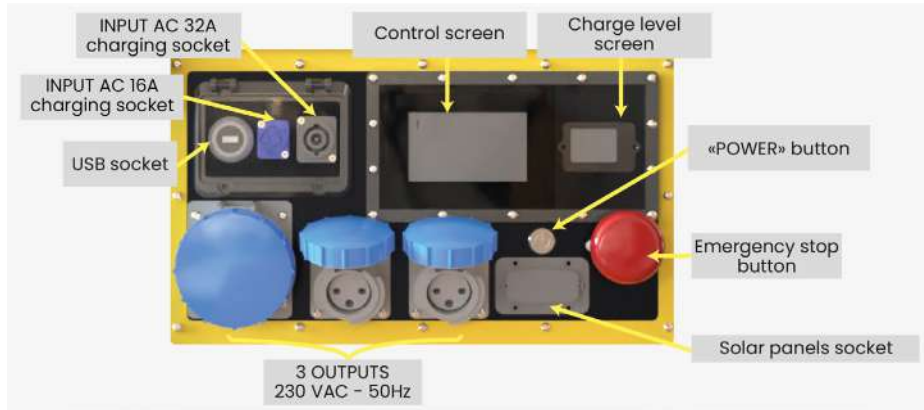
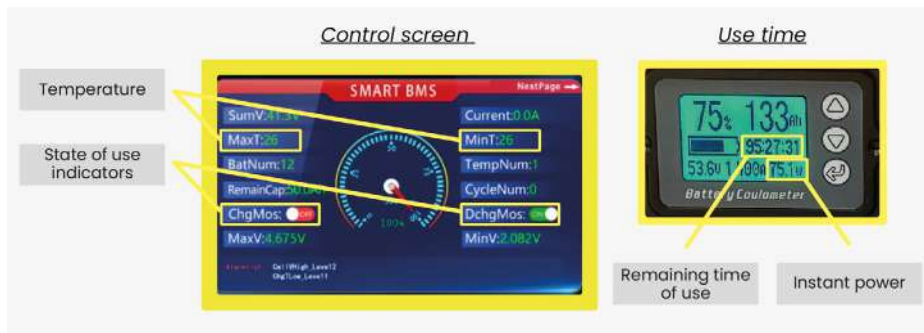

Figure 1 : Rear of the device
Figure 2 : Zoom on the screens at the rear of the device
- Isolated neutral system (IT). Before use, the device must be earthed using an earth rod (not sold with the device). Make sure you comply with local requirements and applicable regulations when installing the device.
- The photovoltaic (PV) input is a maximum of 5500 W (MPPT from 90 to 450 VDC - 500 Voc) (see §II.2 'Technical characteristics of the device').
- When not in use, the device must be switched off by pressing the 'POWER' button. (see §III.3 'Switching off the appliance' & §II.3 Figure 1 and 2).
- The battery isolating switch (also marked 'Emergency stop' on the device, see §II.3 Figure 1) must only be used in the following cases :
- It is forbidden to use the handlebars (see §II.3. Figure 2) of the device as a lifting point.
The man-machine interface is located mainly on the rear of the device (see Figure 1). Some functions, such as circuit breakers or paralleling sockets, are located on the side panels (see Figure 2).
- Make sure that the air/ventilation intakes (see §II.3. Figure 2) on the device are not obstructed.
- Connect the device to earth, using an earth rod (see §II.3. Figure 2).
To find out where the buttons are located, refer to §II.3 Figure 1 & 2.
**First connect the cable to the 'INPUT AC' charging port on the device, then connect the plug to the mains (e.g. 230VAC, 16A or 32A socket) using only the cable supplied with the device (see §II.3. Figure 1).**
- 1) Turn the 'PV IN' circuit breaker to 'OFF' (see §II.3. Figure 2) before connecting the photovoltaic system.
- 3) First connect the Anderson solar panel connector to the device (see §II.3. Figure 1), then connect your photovoltaic system.